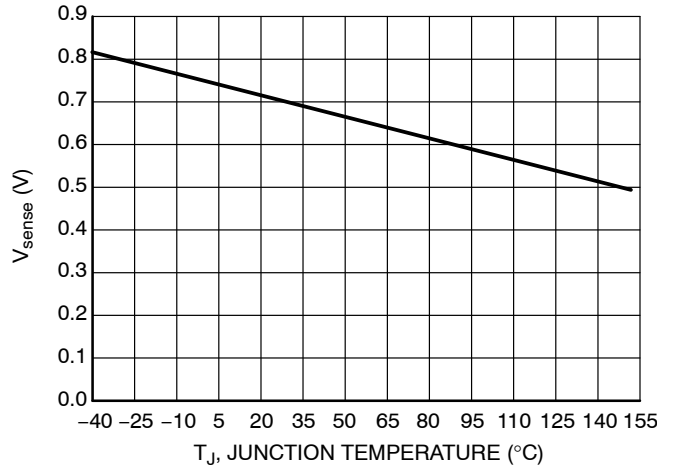

Figure 2. V_{sense} vs. Junction Temperature
- A $R_{ext} = V_{sense} \text{ (see Figure 2)} / I_{LED}$